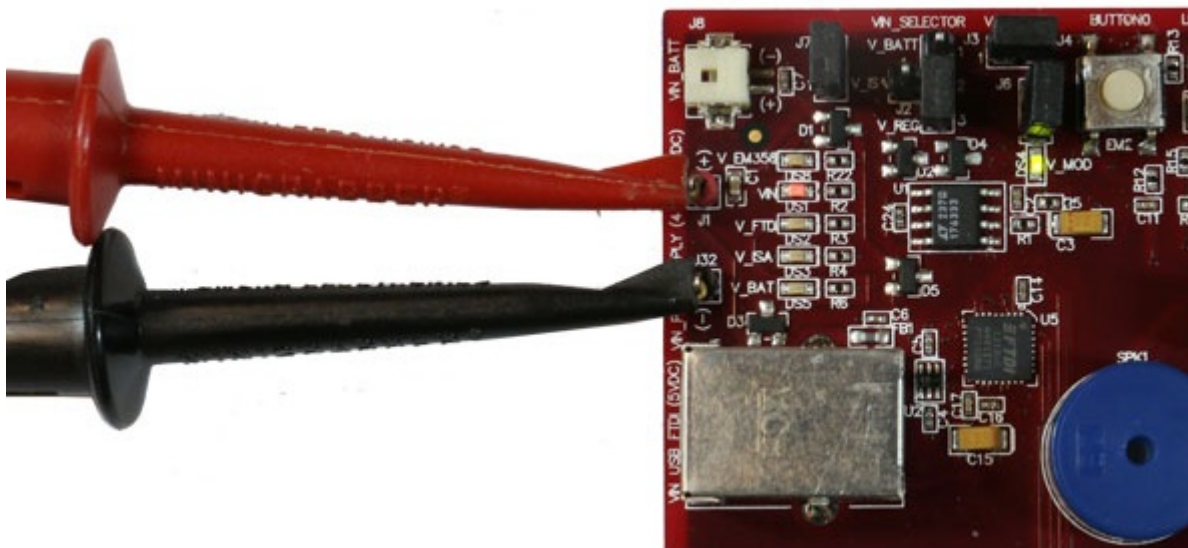

Figure 11. Breakout Board Power Supplied by DC Jumpers
- **Breakout Board Power Supplied by DC Jumpers (Figure 11):** The Breakout Board may also be powered by an external power source that provides 4-20 V dc. The power supply should be connected to jumpers J1 (+ supply) and J32 (ground). The power supply jumper on the Breakout Board should be in the lower vertical position, connecting V_REG to the center pin. The VIN LED (DS1) will illuminate when power is applied. When powering the Breakout Board in this way, ensure the power switch on the Debug Adapter (ISA3) is in the EXT (External) position.